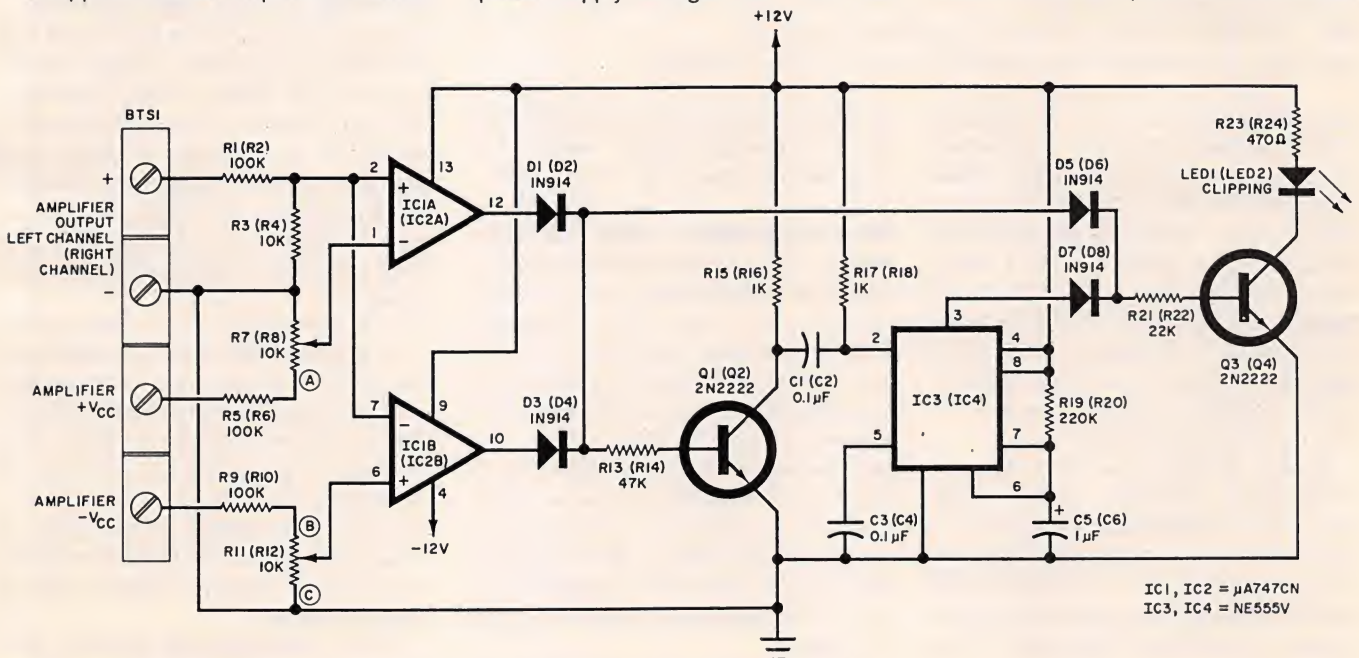

Fig. 2. Schematic of the clipping indicator circuit for one channel.
**About the Circuit.** The Amplifier Clipping Indicator is shown schematically in Fig. 2. Each channel of amplification in a sound system will require a separate indicator circuit. The most common application for the project is in a stereo system, so component numbers for two channels are shown. Those for the right channel are given in parentheses. The discussion that follows pertains to only one channel, designated the left channel of a stereo pair. Everything that will be said, however, applies equally to as many channels as are needed because the indicator circuit is identical for each.
**Interconnection and Adjustment.** If your audio amplifier employs a bipolar dc power supply (most do), connect the  $+V_{CC}$  and  $-V_{CC}$  terminals of *BTS1* to the power supply outputs inside the amplifier. (Note that making these connections will, in most cases void the warranty on your amplifier.) Also, connect the AMPLIFIER OUTPUT terminals of *BTS1* to the amplifier's speaker output terminals in agreement with the polarities indicated in Fig. 2. These connections can be made with standard "zip-cord" or speaker wire. Refer to Fig. 3A for details.